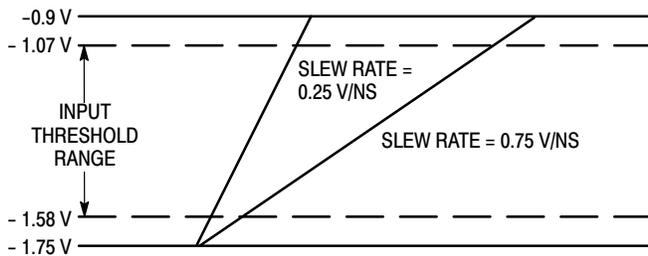
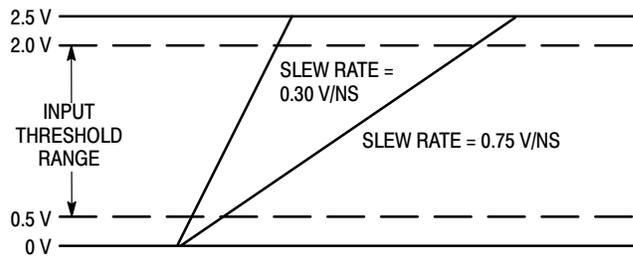

Figure 4. ECL Dispersion Test Input Conditions
Figure 5. TTL Dispersion Test Input Conditions
6. Refer to figure 4 and note that the input is at 850mV ECL levels with the input threshold range between the 20% and 80% points. The delay is measured from the crosspoint of the input signal and the threshold value to the crosspoint of the Q and \overline{Q} output signals.
9. Refer to Figure 5 and note that the input is at 2.5 V TTL levels with the input threshold range between the 20% and 80% points. The delay is measured from the crosspoint of the input signal and the threshold value to the crosspoint of the Q and \overline{Q} output signals.
Figure 4 and Figure 5 define a range of input conditions which incorporate varying input slew rates and input voltage overdrive. For input parameters that adhere to these constraints the propagation delay can be described as: